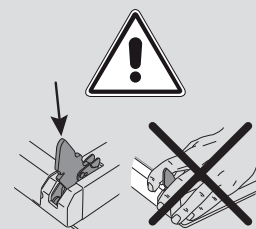

Fig. 6.15c
- Hold the oven door by two hands and close it until the hinge levers hook to the oven door and the door no longer closes easily (fig. 6.15c).